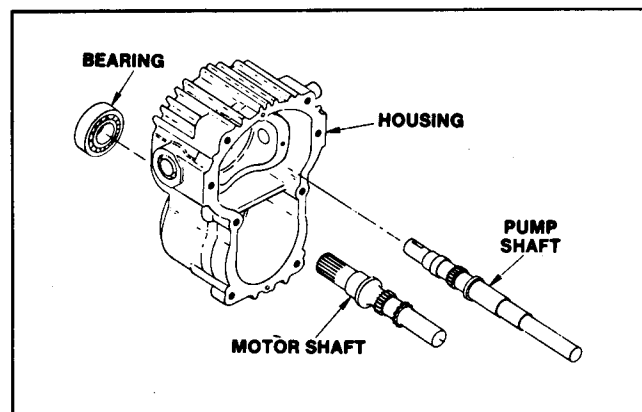

Figure 40
5. The pump shaft and motor shaft may now be removed from the transmission housing by pressing them out through the large cavity of the housing (Fig. 40).